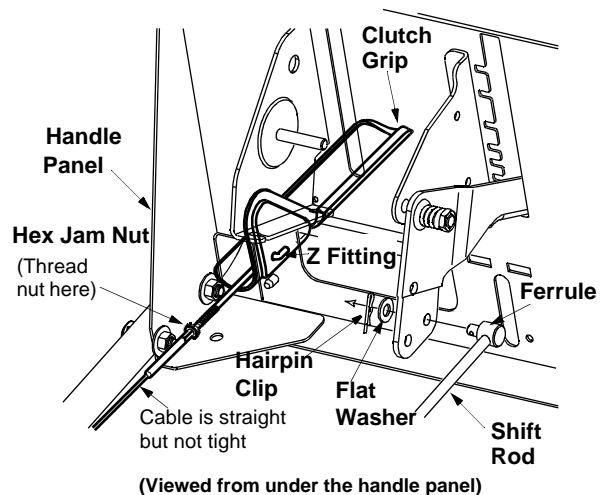

Figure 21
- If adjustment is necessary, loosen the jam nut on the traction drive cable and thread the cable in or out as necessary. See Figure 21. Tighten the jam nut to secure the cable when correct adjustment is reached. Reassemble the frame cover.
- Place shift lever in sixth (6) position or fastest forward speed.
- Rotate the ferrule up or down on the shift rod as necessary until the ferrule lines up with the upper hole in the shift lever. See Figure 21.